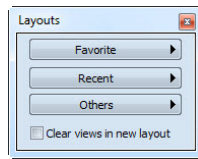

Figure 10 – Layouts tool
1. Click on the  **Layout** item in main toolbar or on the **Favorite**, **Recent** or **Others** button in the **Layouts** tool of the tools panel (see Figure 10).